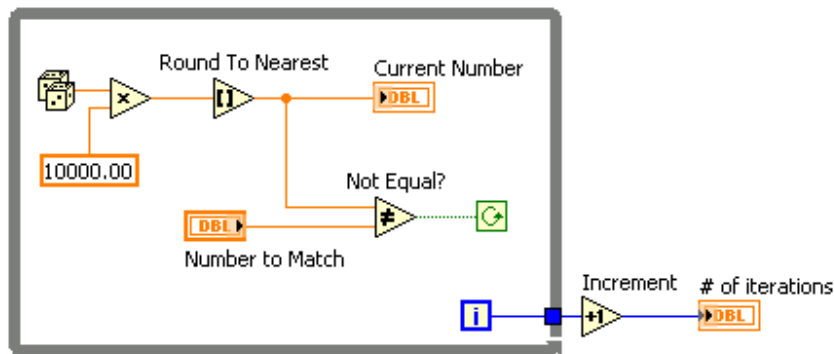

Figure 2
1. Build the block diagram in Figure 2.